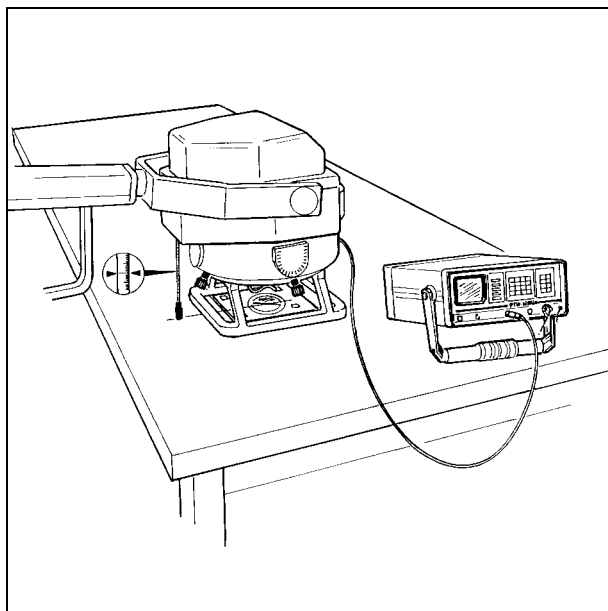

Fig. 5
- Place the measurement detector on a table or other. Using the light field, set the detector in the beam projection, see Fig. 5.